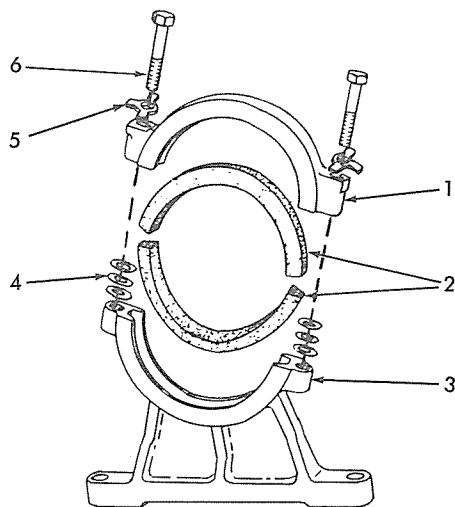

Fig. 3 — Engine Front Mounting Bracket (Used on Track-Type Tractors and Tractor Loaders) (T-71017)
An engine front mounting bracket, similar to the one shown in Fig. 3, is used on engines in track-type tractors and tractor loaders. The mounting bracket bolts to an engine support which bolts, in turn, to the tractor main frame.
- a. Remove capscrews, Figs. 3 or 4 (6), and remove cap (1).
- c. Remove capscrews securing mounting bracket (3) to engine support or, on motor graders to main frame, and remove bracket.
- a. Install bracket, Figs. 3 or 4 (3) on engine support or, on motor graders on main frame, and secure with capscrews and nuts.
- c. To determine the necessary amount of shimming washers (4) proceed as follows:
- (1) Install cap (1), with liner, but do not install shimming washers (4) at this time.
- (2) Install capscrews (6) and tighten evenly to a torque of 50 lb-ft (6.9 kg-m).
- (3) Measure gap between bracket and cap.
- (4) Remove capscrews (6) and cap (1).
- (5) Reinstall cap (1), lockwashers (5), and capscrews (6), using enough shimming washers (4) to fill the gap measured in preceding steps. The shimming washers must be evenly distributed on each side of the bracket. Tighten capscrews (6) to a torque of 95 — 105 lbs. ft. and lock with lockwashers.